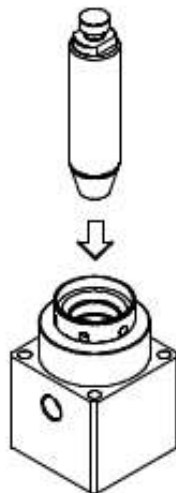

FIG. 1
4. PUSH SHAFT DOWNWARD THRU GLUTTON SEAL USING A HARD RUBBER OR PLASTIC Mallet TO FORM SEAL. (fig. 1)